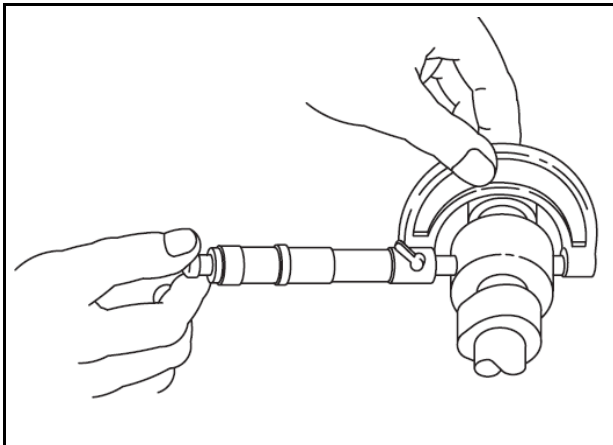

Fig.12-Checking Camshaft Journals
2. Measure camshaft journals, Fig. 12.